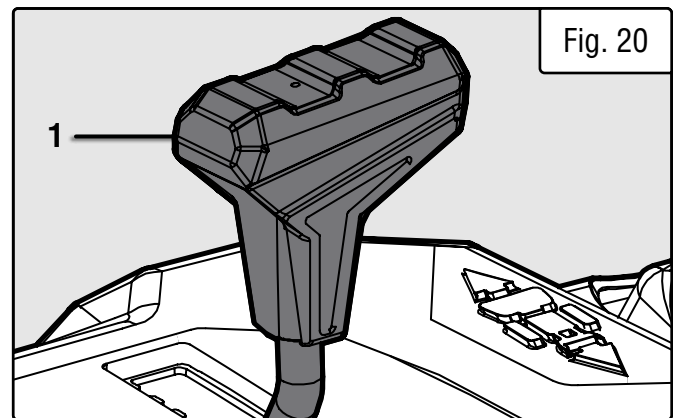

Fig. 20
2. The direction and speed of the snow blower’s motion is controlled by the speed control lever (Fig. 20 - 1). There are six speed settings in **forward** and two in **reverse**.